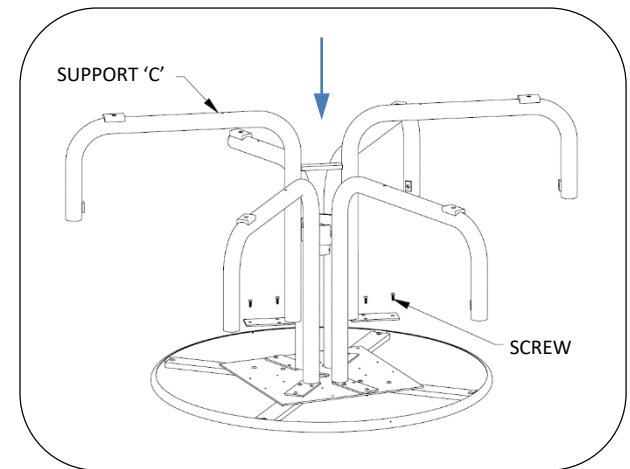
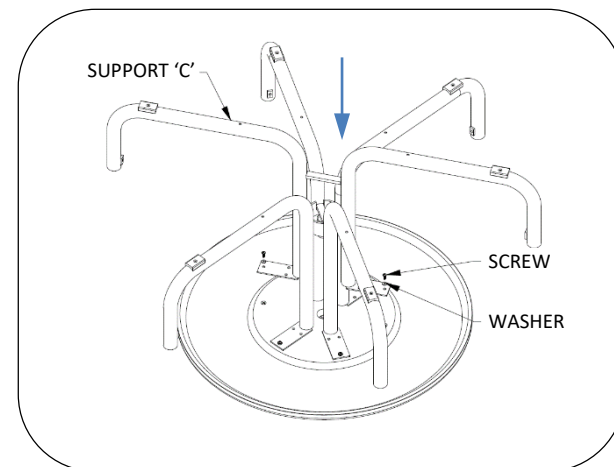

Fig. 7 – 5 support 'C' install (not Marneaux)
Fig. 10 – 6 support 'C' install (Marneaux)
7. For 5 or 6 seat units, lower support "C" over installed supports. Loosely fasten to tabletop. See Fig 7 or Fig. 10.